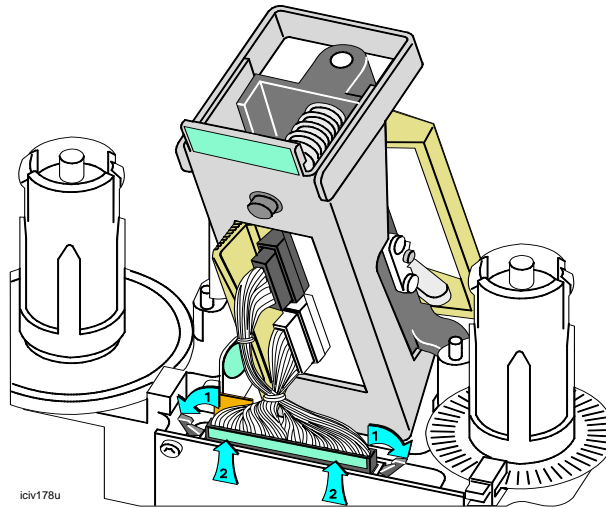

Figure 7-13: Remove the printhead cable from the board
- 6 Push the locking tabs to the side (step 1 in Figure 7-13). Remove the printhead cable from the printhead board (step 2 in Figure 7-13).